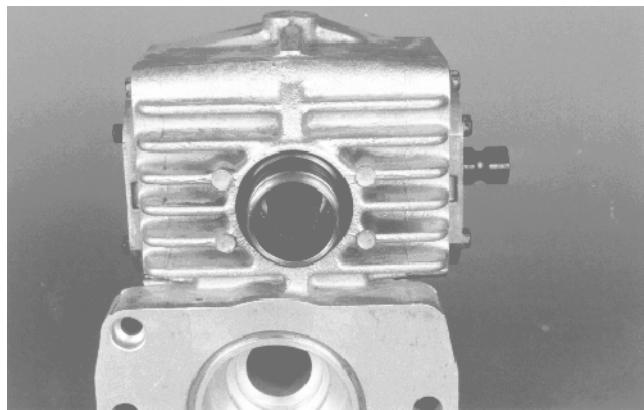

Figure 63
8. Install PTO seal guide and O-ring into housing. Install spiral retaining ring (Fig. 63).